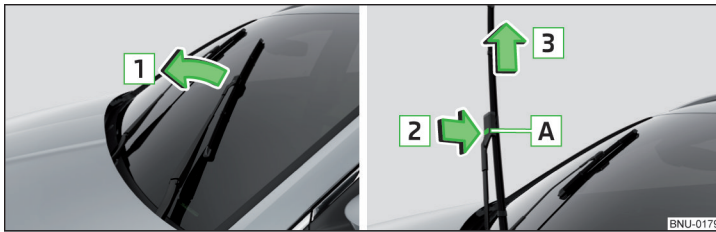

Fig. 338 Replace windscreen wiper blade
- › Lift the wiper arm from the window in the direction of arrow **1** » Fig. 338.